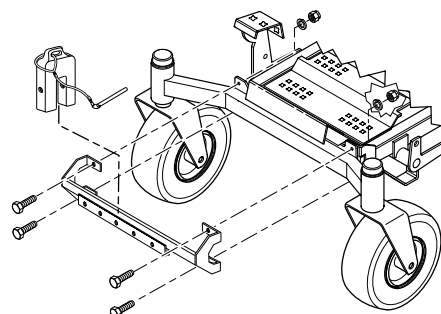

FIGURE 3-7
- Using the weight support bar as a guide, identify the four (4) corresponding mounting holes, and the existing hardware that will need to be removed in order to secure the weight support bar to the front of the machine as shown. See Figure 3-7.
- Install one (1) 7/16-14 x 1-3/4" hex head bolt into each of the four (4) mounting holes in the weight support bar, and through the matching holes in the caster support weldment. Secure this assembly to the front of the machine using the 7/16- .5" x 1-1/4" x .083" flatwashers, and the 7/16-14 elastic stop nuts. Torque hardware to 59 ft. lbs. See Figure 3-7.